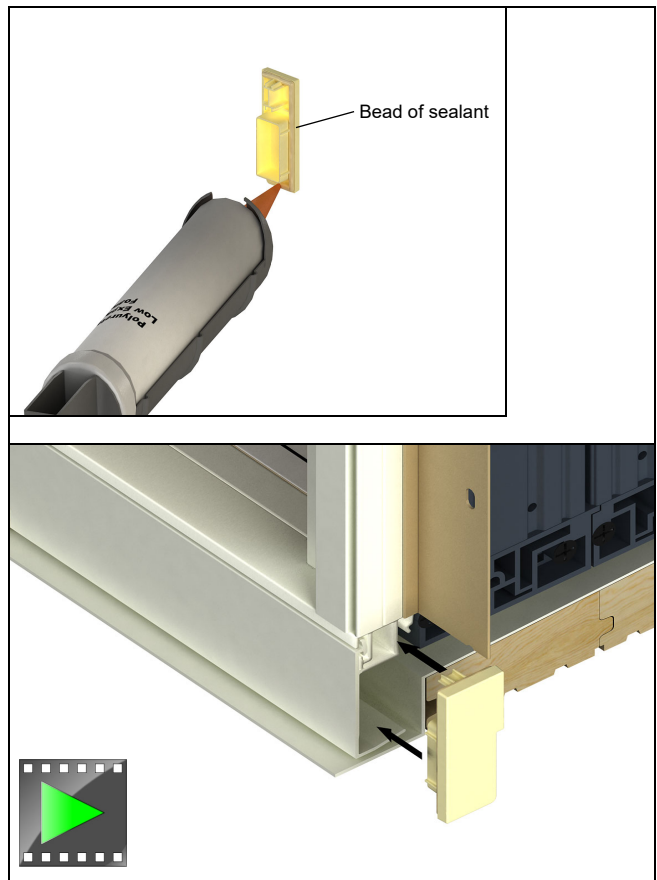

Figure 159
7. **HP Sill Stacked Units:** Apply sealant around end cap and place into ends of sill liner. See figure 159.